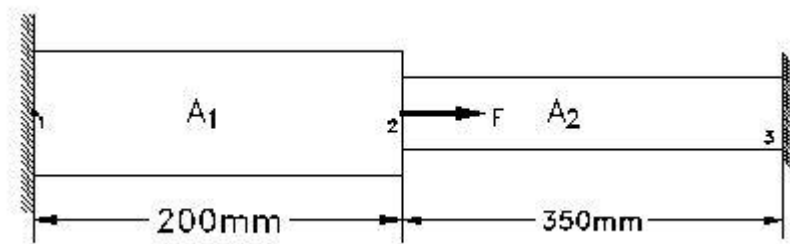

Figure 1
- (c) Consider a two stepped bar as shown in Figure 1 below. Determine the nodal displacements if the temperature raises by 50°C . Consider $E_1 = 200 \times 10^3 \text{ N/mm}^2$, $E_2 = 70 \times 10^3 \text{ N/mm}^2$, $A_1 = 1000 \text{ mm}^2$, $A_2 =$ **07**